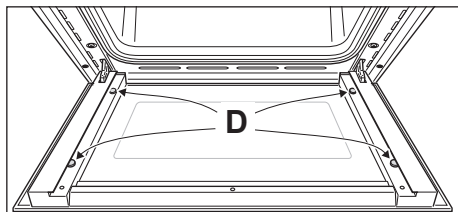

Figure 34
- Check that the four rubber pads are in place ("D" in fig. 34).